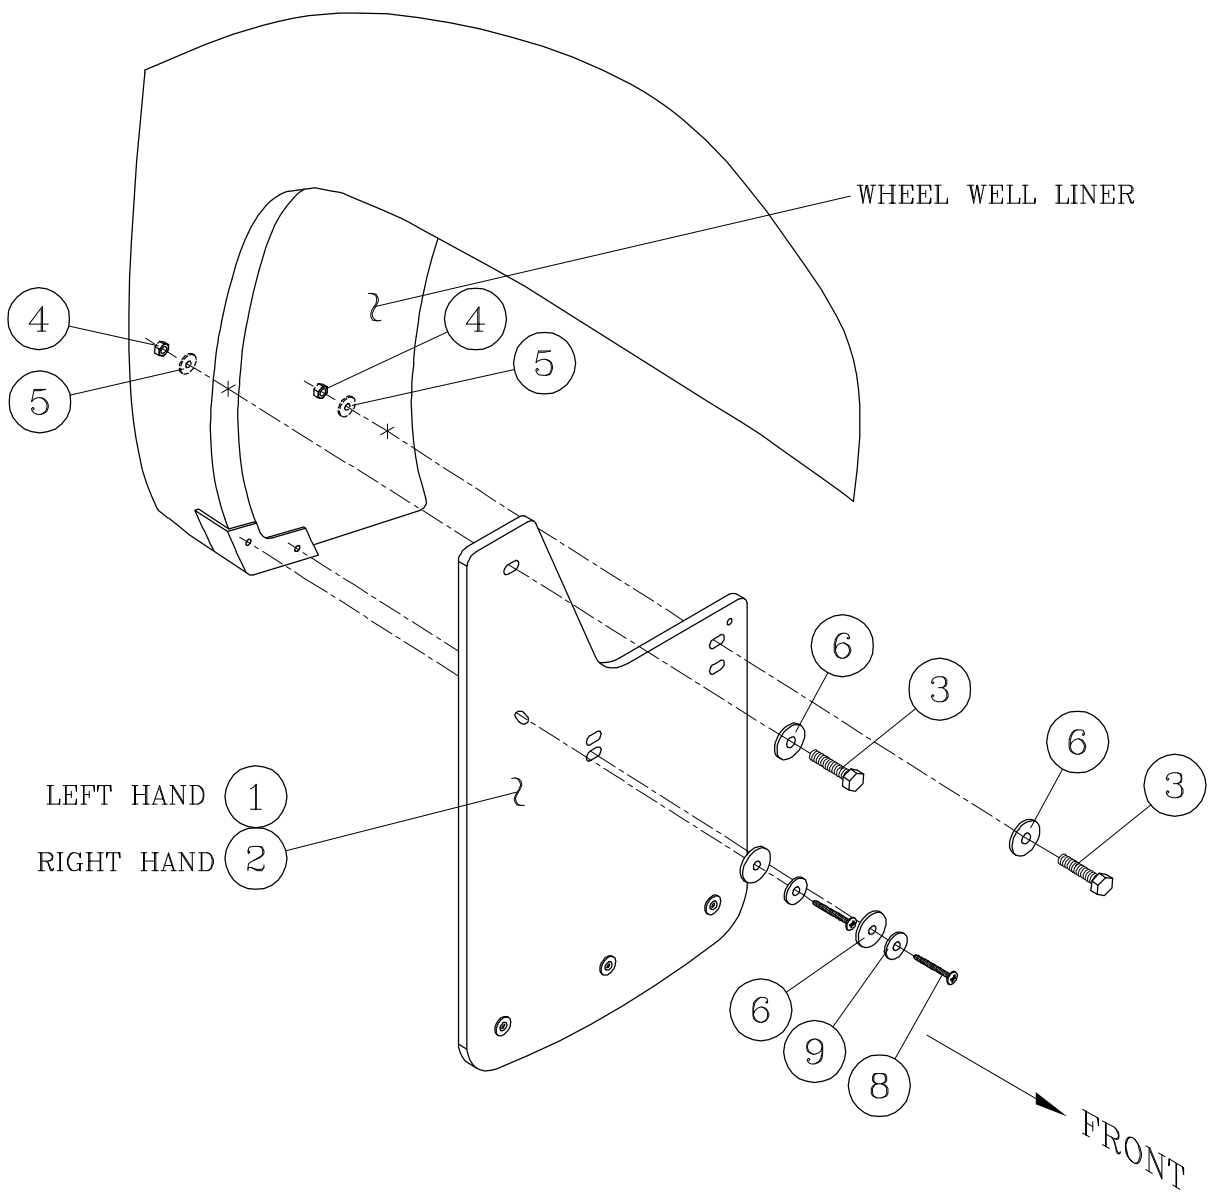

FIG. 1
MOUNTING 251520 / 251523 MUDGUARDS ON THE FRONT OF THE VEHICLE: (SEE FIG. 1)
4. USING TWO 8-15 X 1.75 PAN HEAD SCREWS (ITEM #8), TWO #8 SST FLAT WASHERS (ITEM #9), AND TWO BLACK 1/4" X 1" FLAT WASHERS (ITEM #6) ATTACH THE MUDGUARD (ITEM #2) TO THE FENDER AS SHOWN IN FIGURE 1. LEAVE THESE FASTENERS LOOSE AT THIS TIME.
7. USING A 1/4-20 X 1.5" ALUMINUM HEX HEAD SCREW (ITEM #3), TWO 1/4" ALUMINUM FLAT WASHERS (ITEM #5), A 1/4"- 1"BLACK FENDER WASHER (ITEM #6), AND A 1/4-20 ALUMINUM LOCK NUT (ITEM #4) ATTACH THE MUD GUARD TO THE FENDER AS SHOWN IN FIGURE 1.